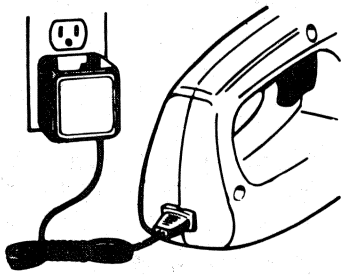

FIG. 1
2. Plug Charger into any 120-Volt receptacle, Figure 1. Your Shear is now on charge. CAUTION — This Charger can be used only with 60 cycle, 115-120 AC voltage.